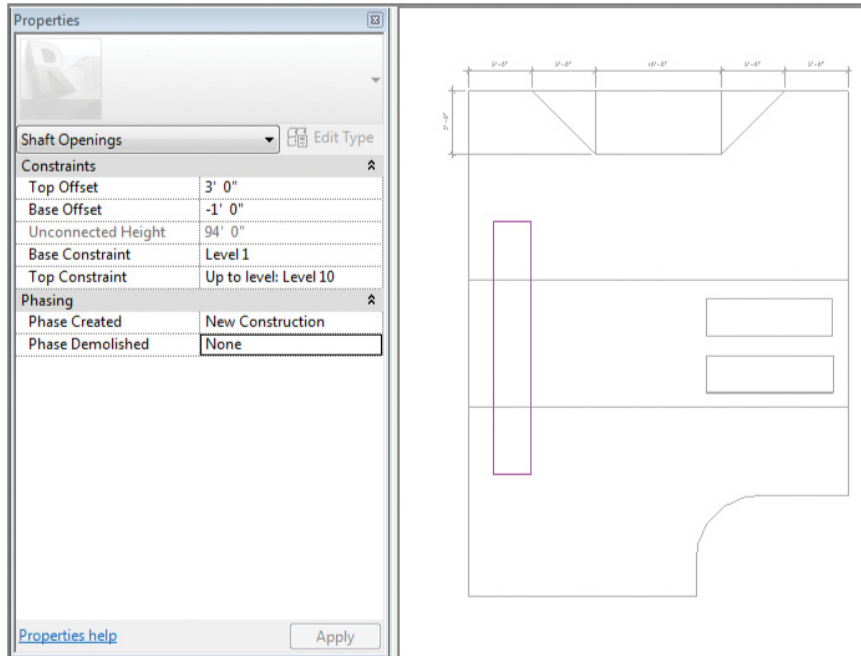

FIGURE 3.15 Creating a multistory shaft
4. Return to the Level 1 view, and select the Shaft tool from the Opening panel. Once again, you enter Sketch mode. Create a new 20' × 3' (6 m × 1 m) rectangle perpendicular to the last two you drew. Be sure to modify the top constraint so the shaft goes up to Level 10. Also be certain to assign a Top Offset value, because the upper floor is slightly above the level (Figure 3.15).